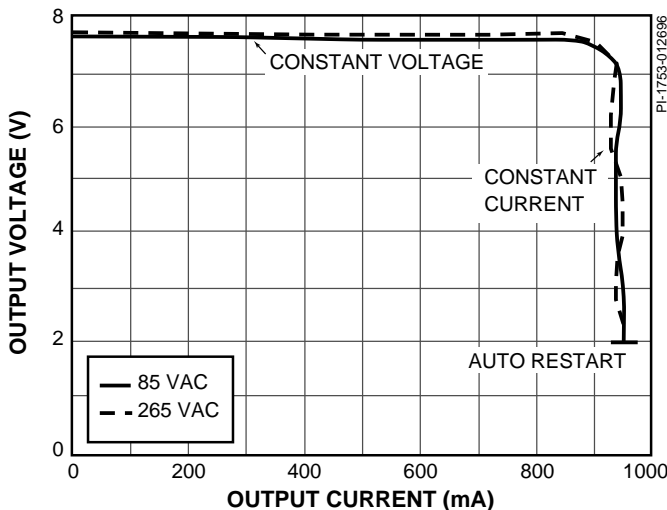

Figure 2. Output Voltage vs. Output Current Characteristic for Simple, Low Cost Transistor Circuit shown in Figure 1.
Figure 2 shows the measured performance of the simple, low cost transistor circuit. Voltage and current data taken at 85 VAC and 265 VAC are virtually identical. Q1 and Q2 control the output current until output voltage drops to approximately 2 V. At this point, Q1 and Q2 can no longer source sufficient optocoupler current, causing output current to become unregulated (but still limited by TOPSwitch primary current limit). With unregulated output current, voltage across R6 increases, further decreasing effective bias voltage for the current control circuit. This interaction between the current control circuit and current sense resistor R6 is regenerative, resulting in cutoff of current to optocoupler U2, forcing TOPSwitch into auto-restart. As a result, the simple, low cost transistor circuit transitions cleanly from constant current control to auto-restart at typically 2 to 2.4 volts output, depending on the input voltage. In auto-restart, average output current is much lower than the linearly controlled output current.
Figure 2 shows measured performance which is very close to the target value of output current.
$V_B$  is the bias voltage,  $V_{D2}$  is the forward voltage drop of D2,  $N_B$  is the number of transformer bias turns,  $N_S$  is the number of secondary turns, and  $V_{D3}$  is the forward voltage drop of D3. In a current controlled power supply, the output voltage is adjusted by the current control circuit to maintain a constant current at the output. For an increased output load (lower load resistance), the output voltage will be adjusted to a lower value to maintain constant current. The primary bias voltage will track the output voltage, and decrease as the output load is increased. The bias winding should be sized to provide enough voltage to properly bias the optocoupler and *TOPSwitch* Control pin at the lowest output voltage occurring just before the supply transitions from constant current to auto-restart. From Figure 2, this output voltage is typically 2 V. *TOPSwitch* maximum Control pin voltage is 6.1 V. The output voltage for the primary bias winding should be set to accommodate the *TOPSwitch* control pin voltage, plus approximately 3 V to keep the output transistor of optocoupler U2 properly biased. The absolute minimum bias voltage available should be at least 9 V. The required voltage and turns ratio for the bias winding can be determined by rearranging Equation (11):
bias voltage may be higher, due to peak charging of the primary bias supply by the primary voltage leakage spike. The influence of this leakage spike will be greatest at the highest output power of the supply. This occurs when output voltage  $V_O$  and output current  $I_O$  are both at maximum values which is also the transition region from constant voltage to constant current as shown in Figure 2. To determine the highest value of the primary bias supply, it should be measured in the application at this operating point.